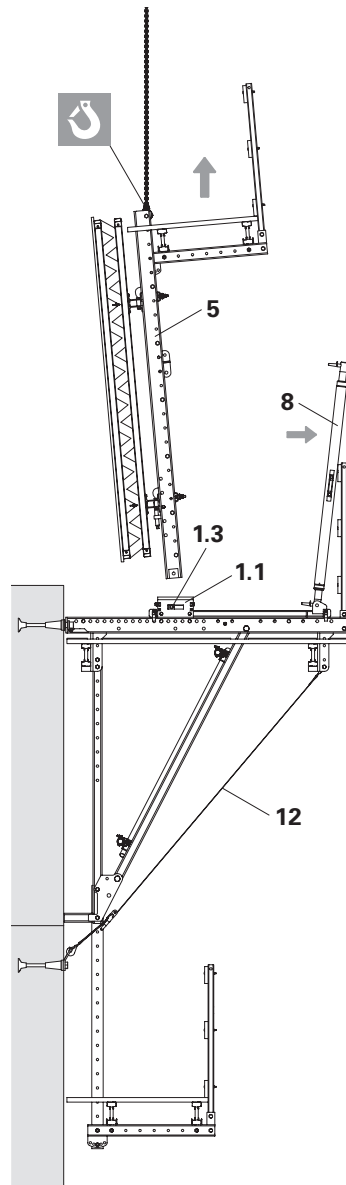

Fig. A6.01
2. Attach crane lifting gear to the Strong-backs (5).
4. Remove top Fitting Pins Ø 26 from the Heavy Duty Spindle (8) and then lean the Spindle against the guardrails and secure against falling.
- (Fig. A6.01)